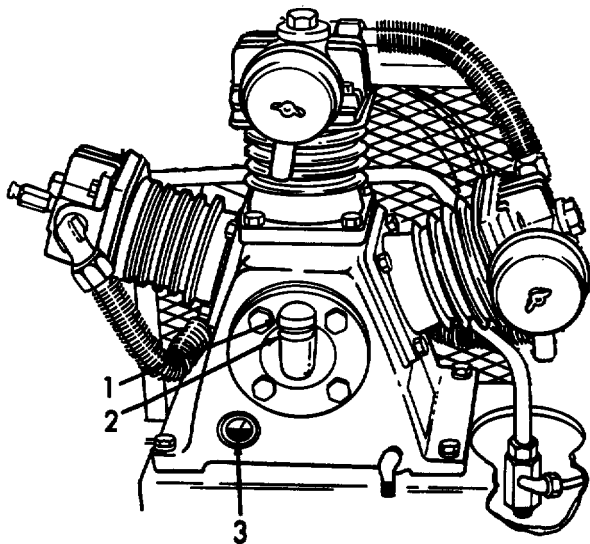

Figure 3-2. Refilling the Crankcase.
- d. Refer to Figure 3-2. Remove the oil breather cap (1).
- e. Fill the crankcase through the oil breather cap opening (2) with 1 3/4 pints of oil (Appendix E, item 1).
- f. Check oil sight gage (3) to ensure that crankcase is properly filled with oil.
- g. Reinstall the oil breather cap (1).